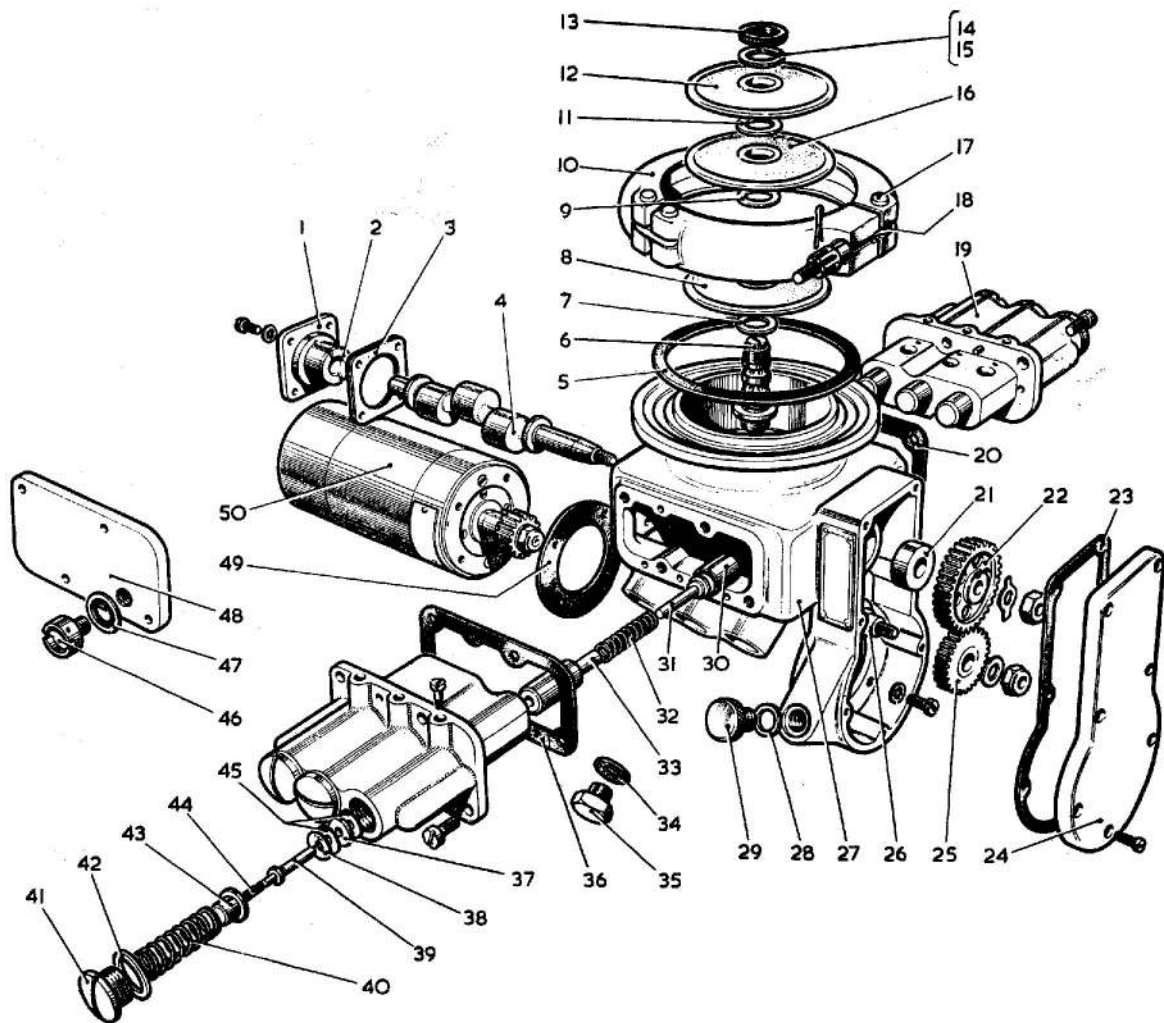
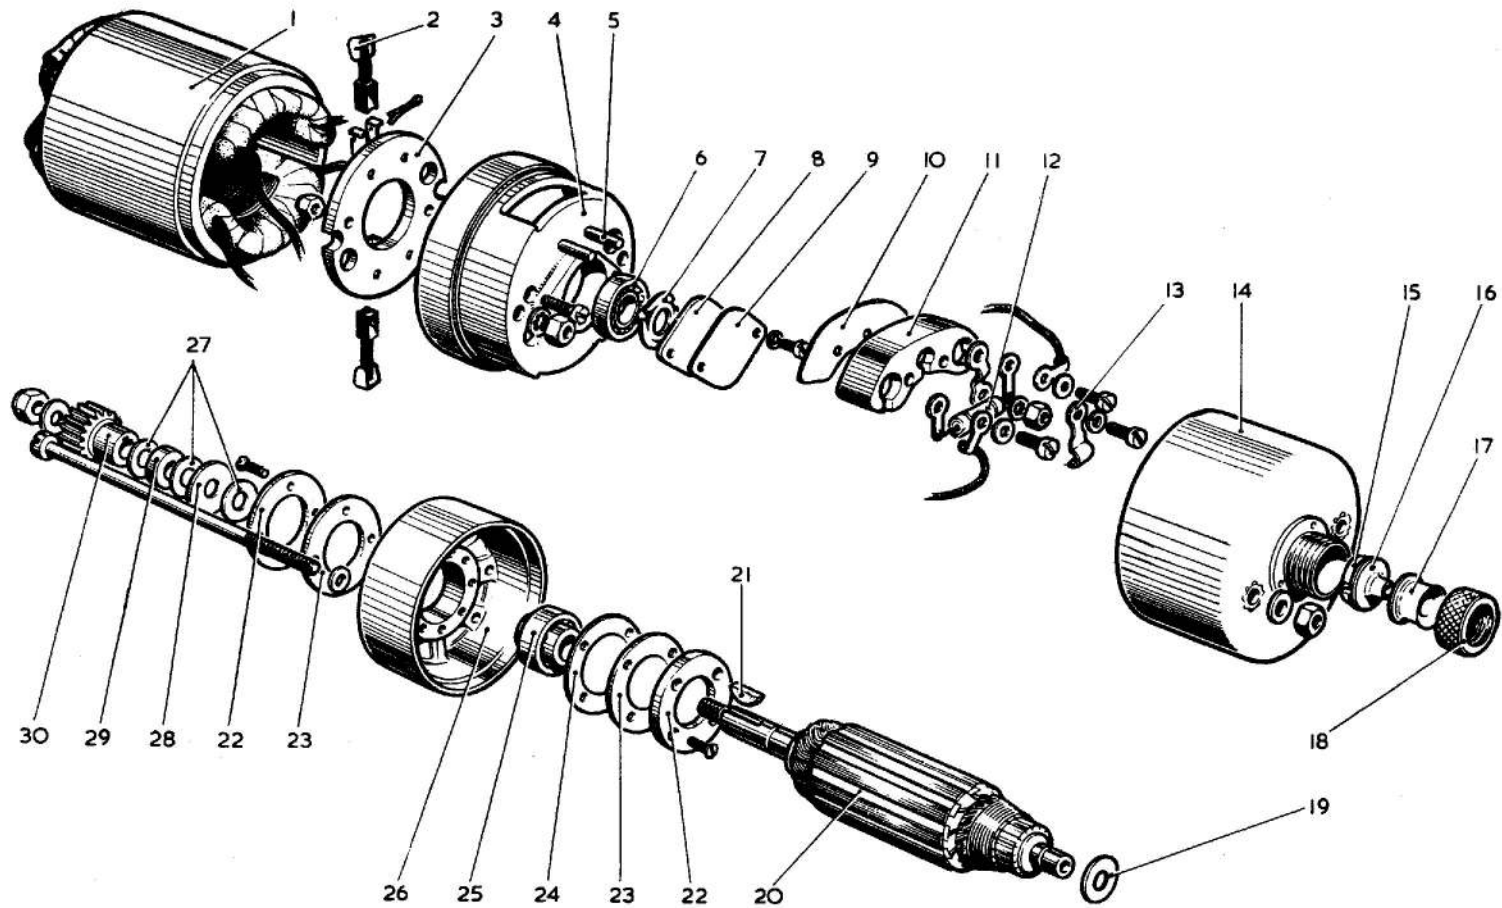

Fig. 3. Exploded view of pump
Fig. 4. Exploded view of motor
8. Examine the pump for external damage and signs of corrosion and leakage. If it is required to renew any of the components the pump should be dismantled as detailed in the following paragraphs. During dismantling reference should be made to fig. 3 and fig. 4 as appropriate.
KEY TO FIG 3
KEY TO FIG 4